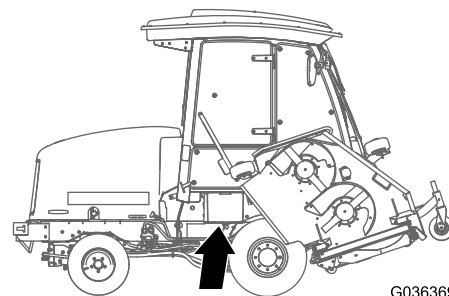

Figure 95
1. Open the battery cover on the side of the shroud (Figure 95).
**Note:** Press down on the flat surface above the battery cover to ease the removal of the cover (Figure 95).